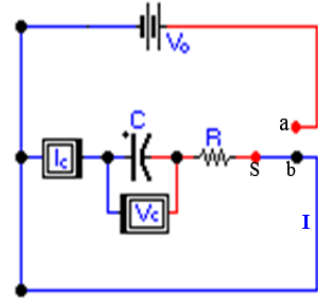

Figure 24:
As soon as the power source is disconnected, (switch S is at position b, Fig.24), the charge begins to flow from one plate of the capacitor towards the other, forming a current I through the resistance R until the capacitor is fully discharged. Applying Kirchoffs second law, since there is no applied voltage, we obtain : $VR + V_c = 0$, or $\frac{dQ}{dt}R + \frac{Q}{C} = 0$ This equation has the solution:
When the capacitor is fully charged ($V_c \approx V_o$, and $I_c \approx 0$), disconnect the power source, (switch S is at position b Figure.24), note the voltage and current decay as the capacitor discharges.
2) Now, simultaneously, close the circuit and, Dis-short the capacitor, start the timer. At regular time intervals of 10 seconds, read the current $I(\mu A)$, and voltage V_c until the capacitor is nearly fully charged. Record your data in table (1). Reset the timer.
3) Simultaneously set the switch S at position (b), Fig.24, and start the timer. At regular time intervals of 10 seconds, read the current $I(\mu A)$, and voltage V_c until the capacitor is nearly discharged ($V_c \approx 0$, and $I_c \approx 0$), . Record your data in table (2).